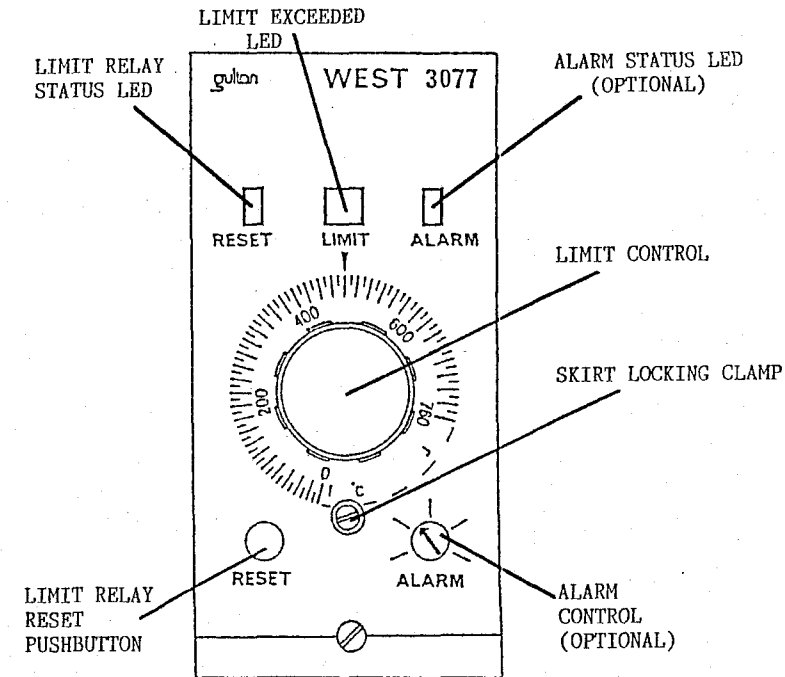

FIGURE 4-1 FRONT PANEL CONTROLS AND INDICATORS
4.2 CONTROLS (Figure 4-1)
4.3 INDICATORS (Figure 4-1)
1. On the large control knob (see Figure 4-1), release the locking screw (turn anti-clockwise).